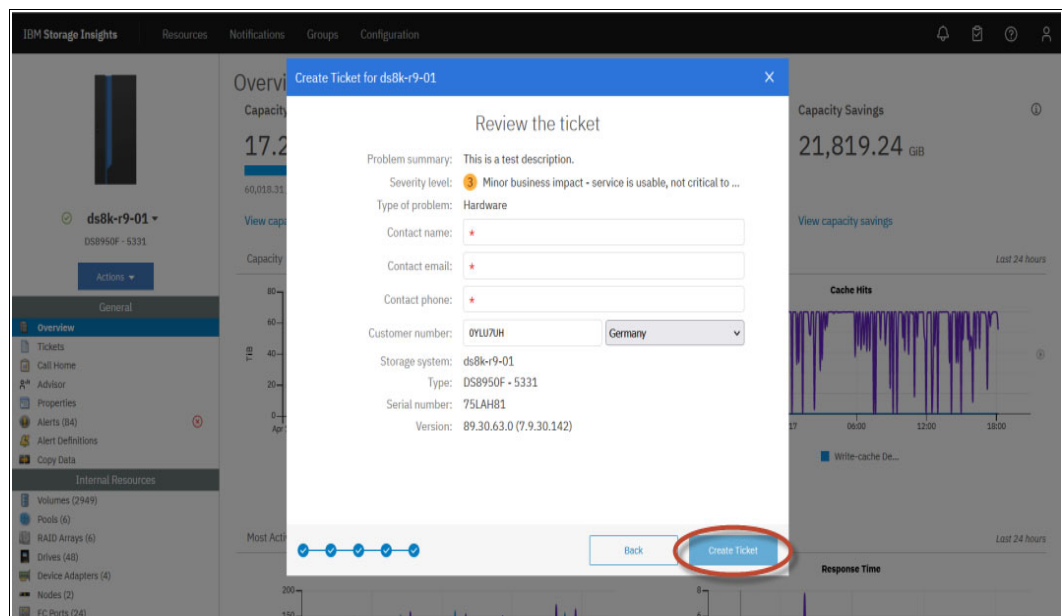

Figure 12-26 IBM Storage Insights: Review the ticket
6. Review and verify the details of the IBM ticket that you are about to open, as shown in Figure 12-26. Provide the name of the contact person, along with a valid contact phone number and email address.